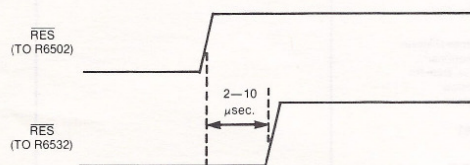

FIGURE 2 — Delayed Reset to R6532
2. Use separate  $\overline{RES}$  signals for the R6502 and the R6532. In order to avoid the first two cycles of the start-up (wherein the addresses are unpredictable), it is necessary to hold the  $\overline{RES}$  to the R6532 low after the  $\overline{RES}$  to the R6502 goes high. This is illustrated in Figure 2.